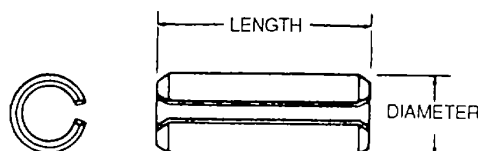

Figure 2-50. Spring Pin
d. **Spring Pins.** The spring pin, as shown in figure 2-50, is a slotted or coiled and chamfered pin, heat-treated to achieve optimum toughness, resilience, and shear strength. Spring pins are stronger than mild carbon steel straight pins, taper pins, or grooved pins of equivalent sizes.